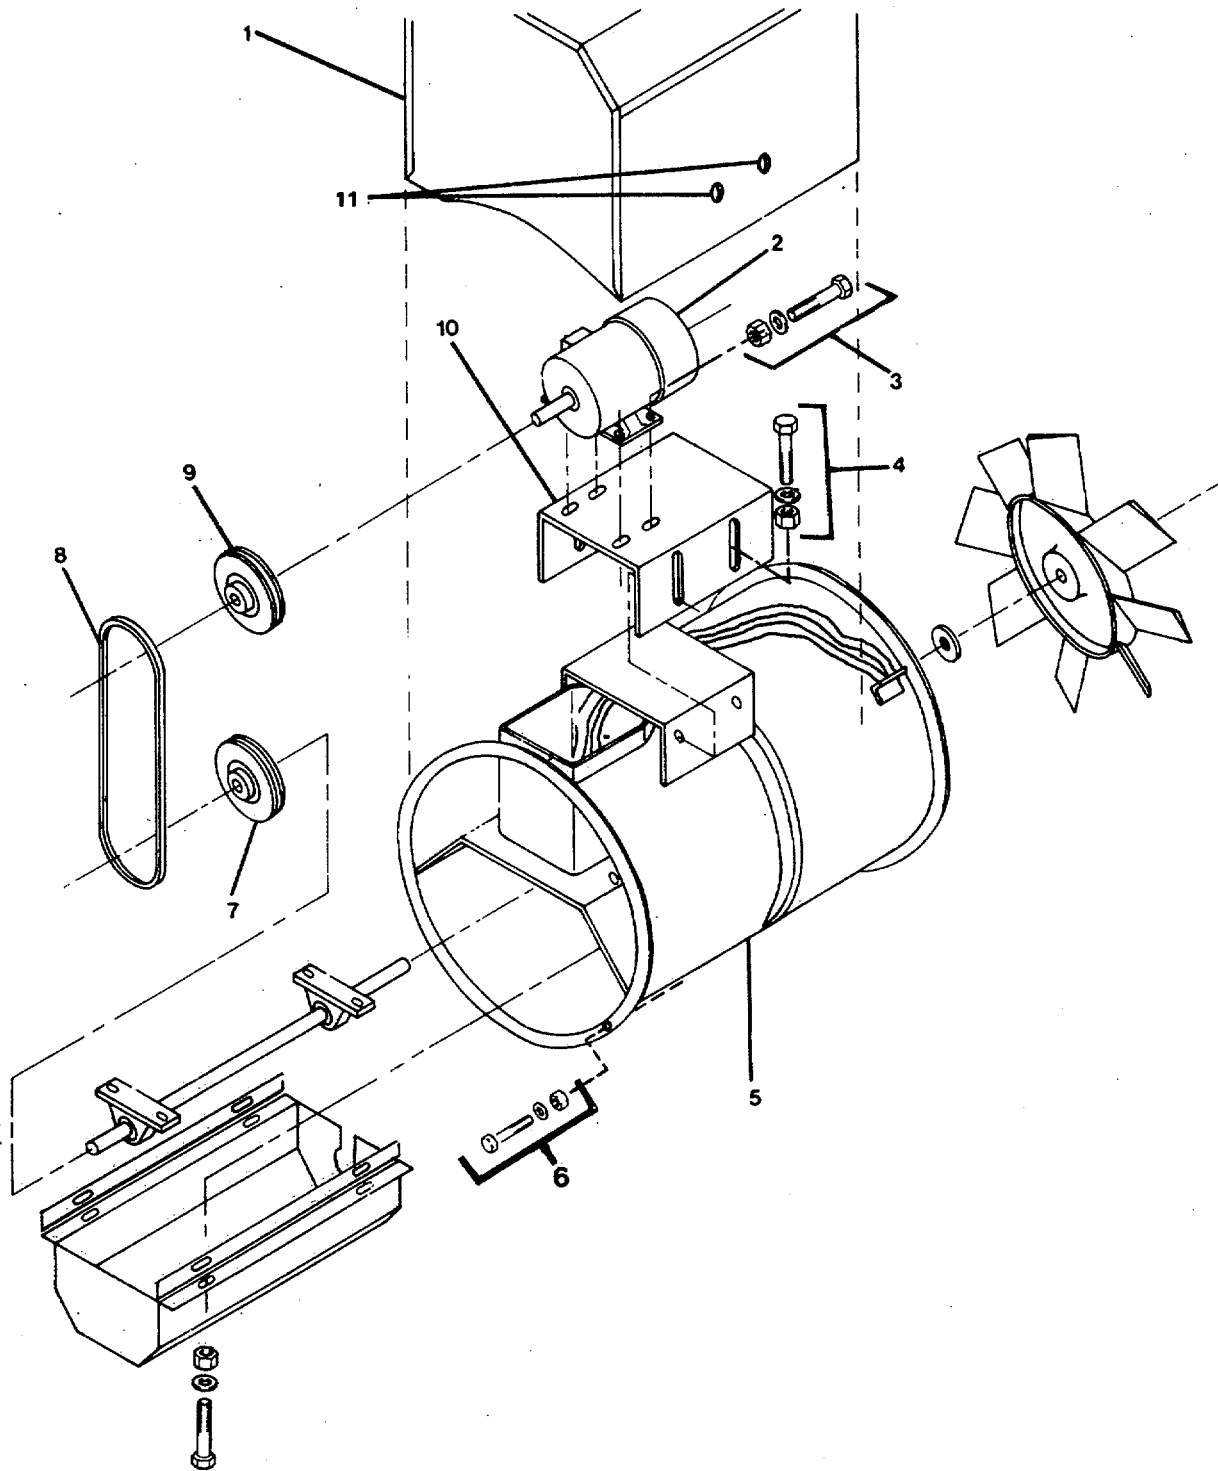

Figure 2-18. Ventilating Fan (Supply Fan #6).
- b. Connect electrical wiring to proper terminals on motor (5).
- c. Install impeller (8) onto motor shaft. Tighten setscrew (10) firmly.
- d. Install box guard (9) on panel (7) and install mounting bolts, flat-washers, lockwashers, and nuts (1, 2, 3, 4).
- e. Make sure the impeller (8) is not touching the guard or panel.
- (1) Turn electrical power ON.
- (2) Start and run fan to check for proper operation.
- (3) Remove "Out of Service" tag from the circuit.
**2-28. Repair Fan, Ventilating (Supply Fan #6). (FIGURE 2-18)**
- c. Refer to paragraph 2-28 and FIGURE 2-18, and remove the motor as follows:
- (1) Loosen tension on V-belt (8). Remove belt from around motor pulley (9, FIGURE 2-18).
- (2) Remove the motor pulley.
- (3) Remove motor mounting bolt, nut, and lockwasher assemblies (3).
- (4) Remove the motor (2) from the motor base (10).
- a. Refer to paragraph 2-28 and FIGURE 2-18, and install the motor as follows:
- (1) Position the motor (2) on mounting base (10, FIGURE 2-18).
- (2) Install motor mounting bolt, nut, and lockwasher assemblies (3). Do not secure until pulleys (7) and (9) are aligned.
- (3) Align pulleys (7) and (9), install V-belt (8) and adjust tension (paragraph 2-28).
- b. Install weather cover (1, FIGURE 2-18) with mounting bolts (11).
- (3) Remove "Out of Service" tag from circuit.